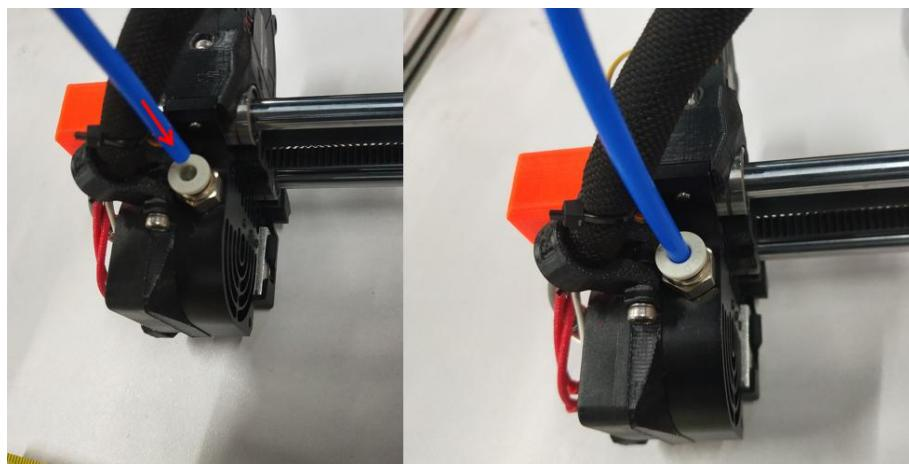

Figure 2.14.2
**Step 2-14-2:** As shown in Figure 2.14.2, insert one end of the Teflon tube into the fast connector-peg at the hot end of the extruder. (Pay attention to make sure that the Teflon tube is inserted all the way)